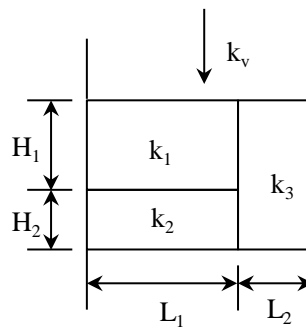

Fig. 3
- (2) Consider the specimen consisting of two types of layers in parallel series, where two different soil layers are connected in series and the independent single soil layer are filled in as shown in Fig. 3. The lateral boundary of the layer is assumed to be impermeable. The thickness of the individual layers in series on the left-hand side is H_1 and H_2 with the width of L_1 . The thickness of the single layer on the right-hand side is H_1+H_2 with the width of L_2 . The values of the coefficient of permeability of the corresponding layers are assumed to be k_1 , k_2 and k_3 as shown in Fig. 3. By assuming that the water flows uniformly in the soil specimen in the vertical direction, find the equivalent coefficient of permeability, k_v for this soil specimen consisting of three different soils.